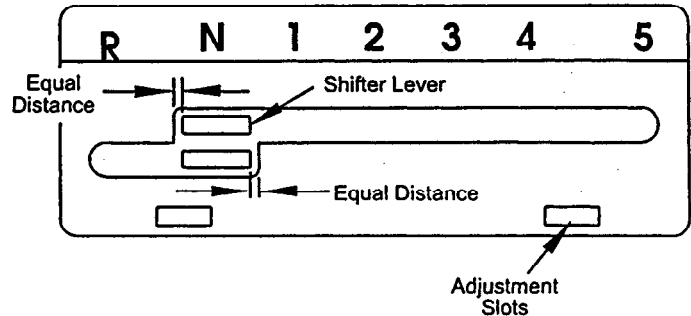

FIG. 10
- c) Shift to neutral position. Lever should not contact the left edge of the upper slot. Push lever down. Lever should not contact the right edge of the bottom slot (See Figure 10). Shifter plate can be adjusted side to side to adjust position of lever relative to the slot in plate. Loosen the two bolts securing the shifter plate to the shifter lever legs. Adjust shifter plate and retighten bolts.